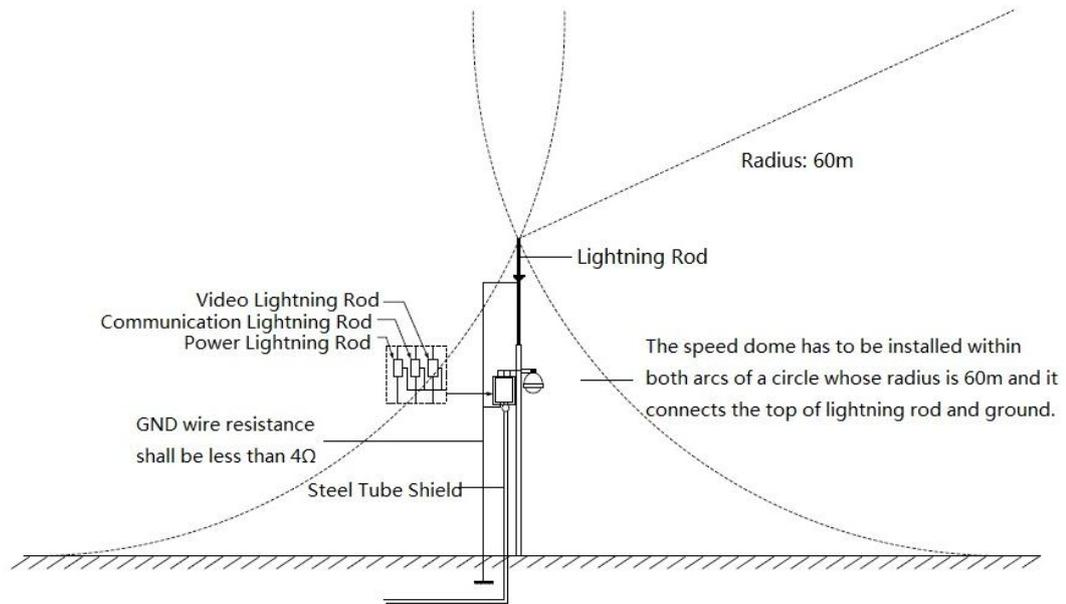

Figure 8-1
- System shall adopt equal-potential wiring. The earth device shall meet anti-jamming and at the same time conforms to your local electrical safety code. The earth device shall not short circuit to N (neutral) line of high voltage power grid or mixed with other wires. When connect the system to the earth alone, the earth resistance shall not be more than $4\ \Omega$ and earth cable cross-sectional area shall be no less than $25\ \text{mm}^2$. See Figure 8-1 for the lightning protection installation mode for outdoor anti-corrosion bullet camera.